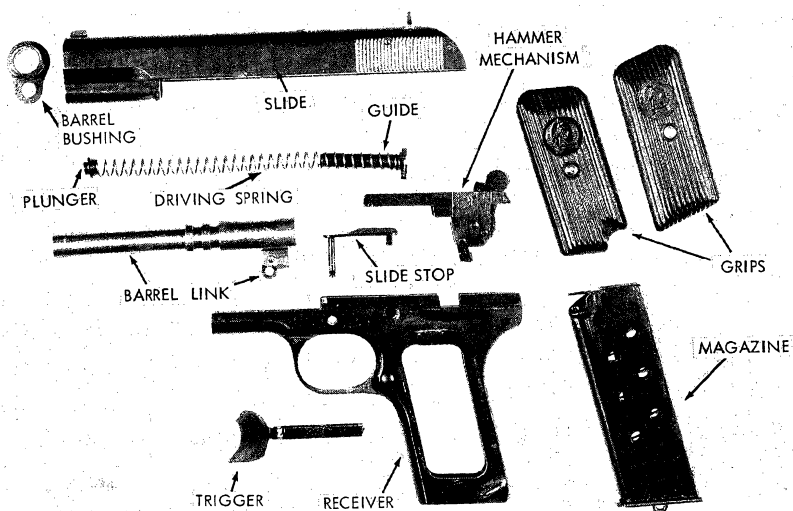
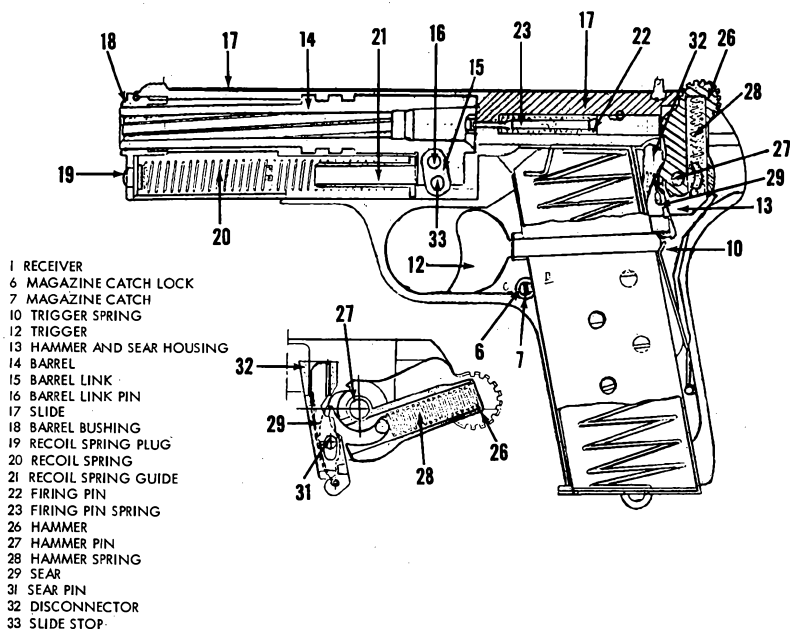
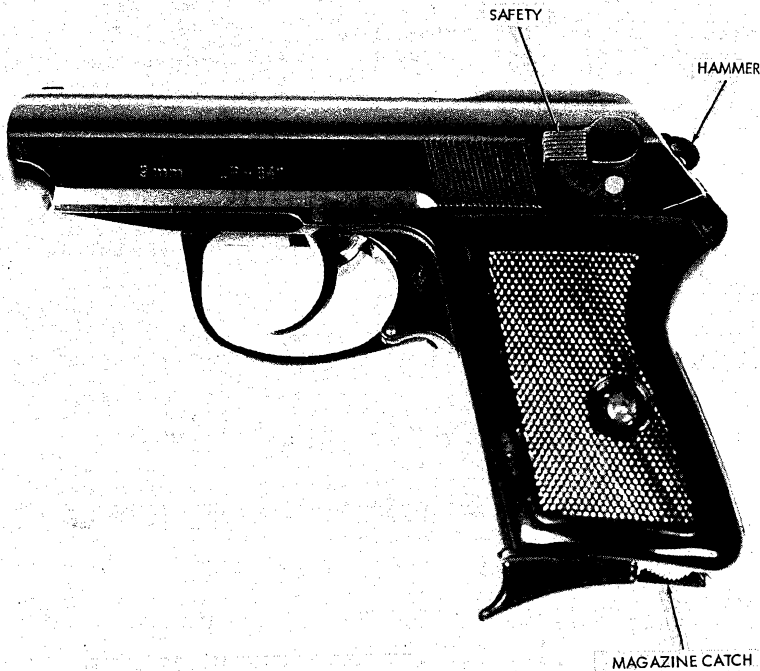

Figure 13. Tokarev pistol, disassembled.
Figure 14. Tokarev pistol, section.
Figure 15. Polish P-64 pistol.
(1) Clear the pistol (para 15d), but do not insert the magazine.
(2) Use the point of a bullet or similar item to press in the recoil spring plunger (located directly under the muzzle) to unlock the barrel bushing. Rotate the barrel bushing half a turn until it, the driving spring, and its plunger can be removed from the slide (fig 13).
(5) Hold the slide inverted and swing the barrel link forward; lift up the rear end of the barrel to disengage it from the slide, and slide the barrel forward out of the slide.
(6) If the hammer mechanism did not fall free of the receiver, pull it out of the receiver (fig 13).
(7) No further disassembly is necessary or desirable.
(1) Place the hammer mechanism into the receiver.
(2) Slide the barrel, chamber end first, into the inverted slide until it drops into the locked position. Lay the driving spring guide (rounded side up and shaft toward the muzzle) on the barrel, just forward of the turned down link.
(3) While holding the hammer mechanism in place, slide the receiver onto the slide as far as it will go. Turn the pistol upright and look through the small hole above the trigger to insure that the holes in the link (fig 13) and the receiver are lined up; if they are not, jiggle the barrel until they are, then insert the slide stop and press the retainer forward to hold the slide stop in place.
(4) Insert the driving spring into the slide and slide it over the driving spring guide. Move the hammer to the half-cock position to lock the slide in place, and carefully force the driving spring and plunger into the slide.
(5) With the smaller hole of the barrel bushing aligned with the front sight, insert the bushing into the slide, and rotate it one-half turn. The driving spring plunger will lock it in place. Insert the magazine, cock the hammer, and press the trigger.
c. The barrel is locked to the slide by ribs (machined into the outer surface of the barrel (14, fig 14)) that mesh with grooves in the slide. A link (15, fig 14) connects the movable barrel to the receiver by means of the slide stop pin; as the barrel moves to the rear in recoil, the link pivots and pulls the rear end of the barrel down to unlock it from the slide. Because of its momentum, the slide continues to the rear.
fig 13). When the slide recoils, the disconnecter is forced down, pushes the trigger extension down, and releases the sear. The sear spring then presses the sear against the hammer. As the slide continues to recoil, it rocks the hammer back so that the sear engages the sear notch on the hammer. When the slide counterrecoils, the sear holds the hammer cocked; when the slide is fully forward, the disconnecter is free to raise into the cut in the slide. This action allows the trigger bar, under the pressure of the trigger spring, to rise against the bottom of the sear. When the trigger is released, it moves forward, and as soon as the trigger bar clears the sear, the trigger spring again forces the trigger bar up into position in front of the sear. Pressure on the trigger will now fire another shot.
The P-64 (fig 14), the newest pistol used by the Polish Army, is a replacement for the old Pistolet TT (para 13). The double action P-64 bears a strong resemblance to the Soviet Makarov pistol and has some features copied from the German Walther PP pistols; it, however, is an original design. It can be identified by the inscription 9-mm "P-64" on the left side of the slide (fig 15). The P-64 pistol fires 9x18-mm cartridges (sec VI).
b. Insert the magazine into the pistol so that the magazine catch (fig 15) retains the magazine. Grasp the slide by the grooves and pull it fully to the rear against the pressure of the driving spring. Release the slide; the driving spring will force it forward, loading the pistol.
e. Before the slide recoils, the disconnecter projects upward from the hammer mechanism into a cut in the slide (fig 14). When the slide recoils, the disconnecter is forced down, pushing the trigger extension down and releasing the sear. The sear spring then presses the sear against the hammer. As the slide continues to recoil, it rocks the hammer back so that the sear engages the sear notch on the hammer. When the slide counterrecoils, the sear holds the hammer cocked; when the slide is fully forward, the disconnecter is free to raise into the cut in the slide. This action allows the trigger bar, under the pressure of the trigger spring, to rise against the bottom of the sear. When the trigger is released, it moves forward. As the trigger bar clears the sear, the trigger spring again forces the trigger bar up into position in front of the sear. Pressure on the trigger will now fire the pistol again.